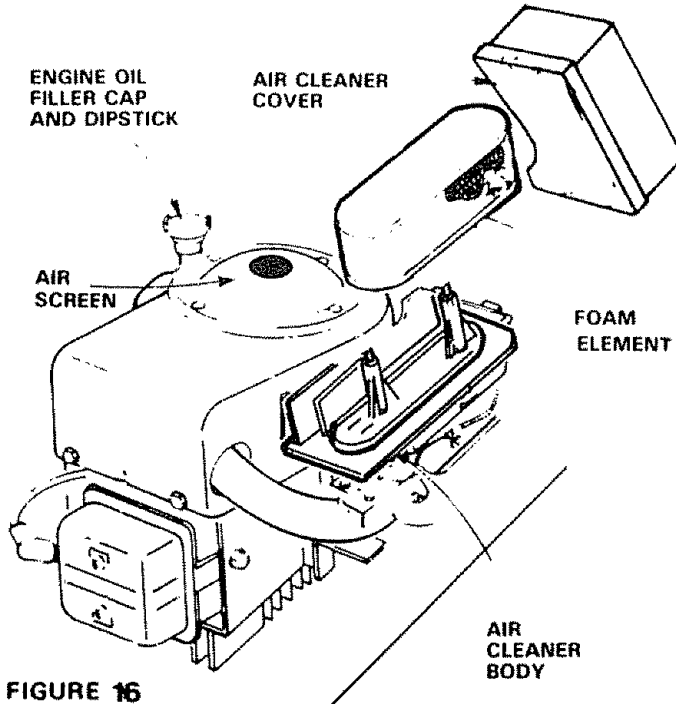
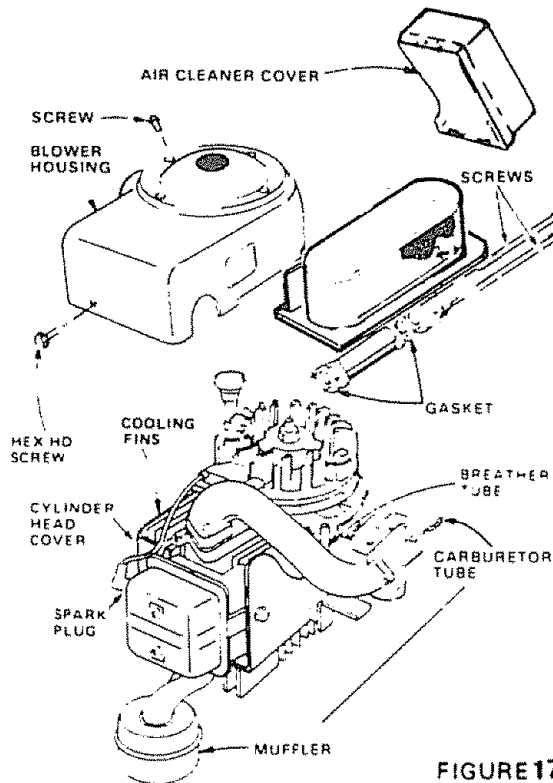

FIGURE 16
FIGURE 17
7. Clean Air Cleaner Element (Fig. 16)
Air screen and cooling fins (Figs. 16 and 17) must be kept free of dirt and chaff to prevent engine damage from overheating. Clean with a wire brush or compressed air to remove dirt and dried gum fibers.
- Snap off air cleaner cover (Fig. 16).
- Remove 3 screws securing air cleaner body (Figs. 16 and 17) and remove. (Cover carburetor to prevent entry of dirt.)
- Remove 3 screws from blower housing and lift housing off engine (Fig. 17).
- Use compressed air or stiff bristle brush to thoroughly clean engine cooling fins (Fig. 17) and air screen (Fig. 16).
- Be certain carburetor tube, breather tube, and gaskets are in place (Fig. 17).